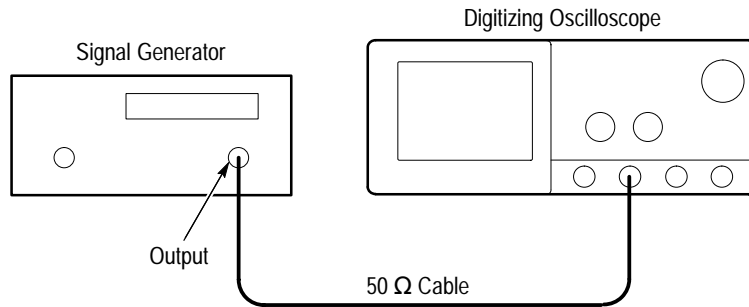

Figure 1-30: 60 Hz Rejection Test Hookup
- Connect the output of the signal generator to the CH2 input through a 50  $\Omega$  cable. See Figure 1-30.